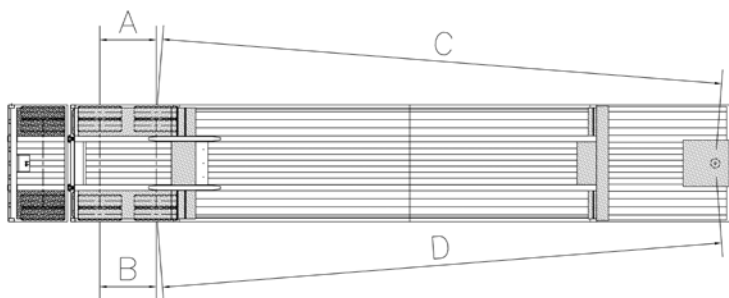

Figure 11
- Measure the distances "C" and "D" (figure 11) from the
- Measure the distances "A" and "B" (figure 11) between the front and rear tandem axles.